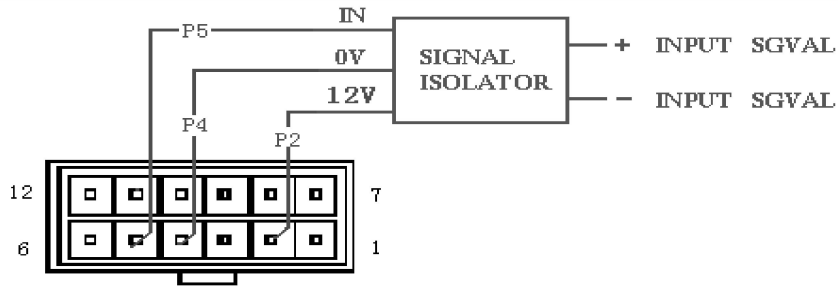

Figure7
2. Wiring and installation for signal isolator type speed regulator and controller (please select signal isolator type controller) (refers to Figure 7).
Use speed regulating signal isolator complying with Figure 7, and connect regulating signal isolator among terminals, P2, P4 and P5.